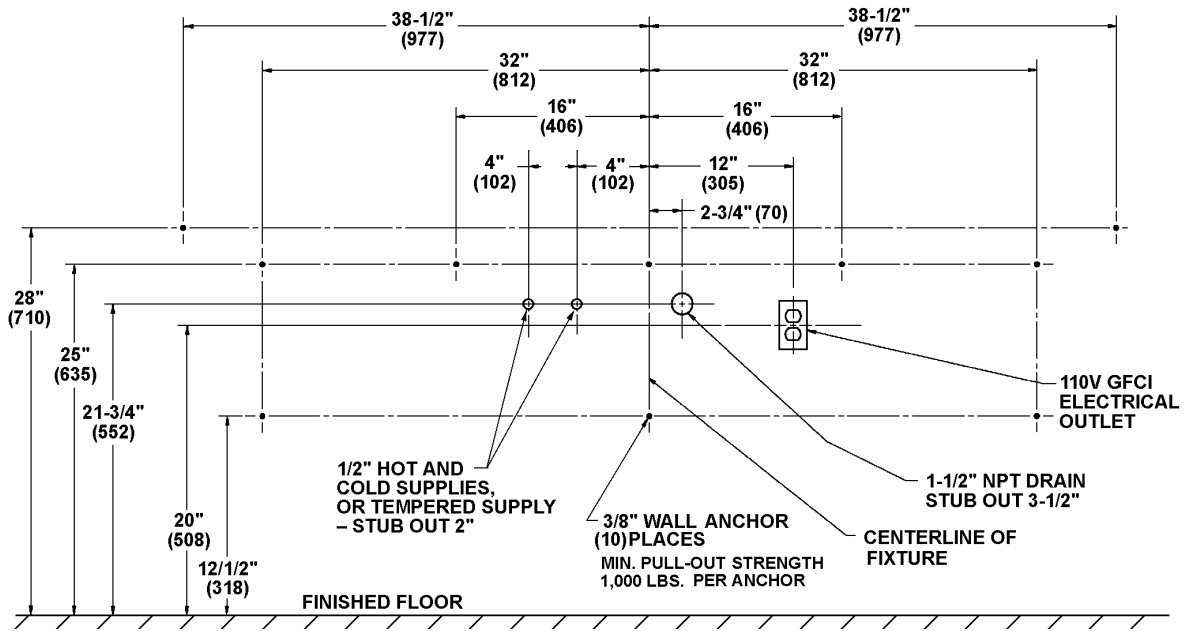

Figure 1a
Note: See Figure 1 below (for Standard Height) and Figure 1a on page 5 (for Juvenile Height) when roughing in the Express®.
4. Install (10) 3/8" wall anchors with a minimum pull-out rating of 1,000 lbs. (supplied by installer) at the locations shown in Figure 1 below (or Figure 1a on page 5).